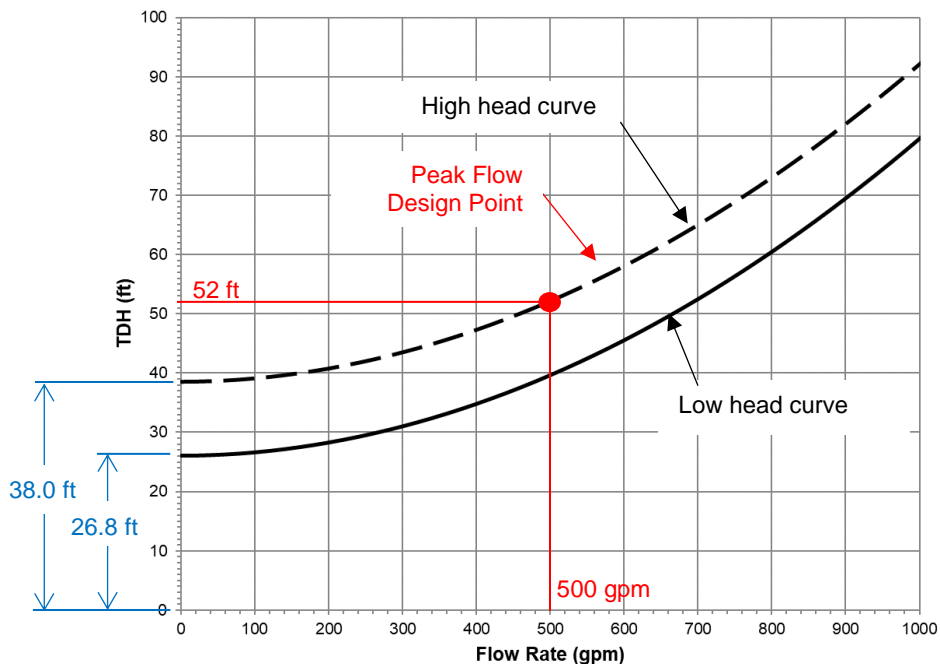

Figure 22: System curves with the operating point in red.
4. Plot the TDH versus Flow for the two conditions. See Figure 22 for an example.
Beatrix calculates the friction and minor losses at 100 gpm intervals, then adds the two static losses to create system points, which are plotted as system curves in Figure 22.